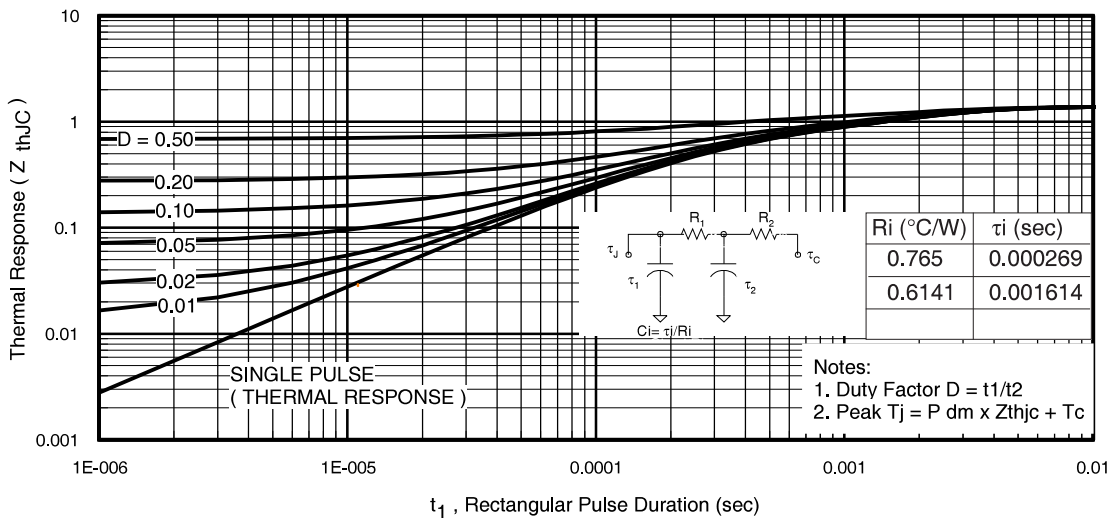
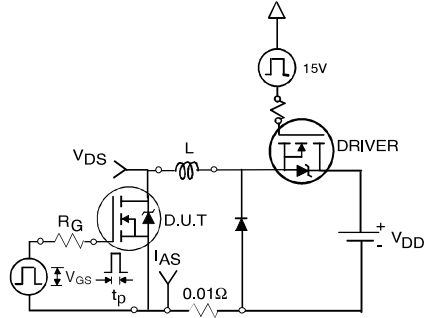

Fig 11. Maximum Effective Transient Thermal Impedance, Junction-to-Case
Fig 12a. Unclamped Inductive Test Circuit
3. Equation below based on circuit and waveforms shown in Figures 12a, 12b.
$Z_{thJC}(D, t_{av})$ = Transient thermal resistance, see figure 11)
- ① Repetitive rating; pulse width limited by max. junction temperature. (See fig. 11).
- ② Limited by T_{Jmax} , starting $T_J = 25^\circ C$, $L = 0.089mH$, $R_G = 25\Omega$, $I_{AS} = 36A$, $V_{GS} = 10V$. Part not recommended for use above this value.
- ③ Pulse width $\leq 1.0ms$; duty cycle $\leq 2\%$.
- ④ C_{OSS} eff. is a fixed capacitance that gives the same charging time as C_{OSS} while V_{DS} is rising from 0 to 80% V_{DSS} .
- ⑤ Limited by T_{Jmax} , see Fig.12a, 12b, 15, 16 for typical repetitive avalanche performance.
- ⑥ This value determined from sample failure population. 100% tested to this value in production.
- ⑦ When mounted on 1" square PCB (FR-4 or G-10 Material) . For recommended footprint and soldering techniques refer to application note #AN-994
- ⑧ R_θ is measured at T_J approximately $90^\circ C$